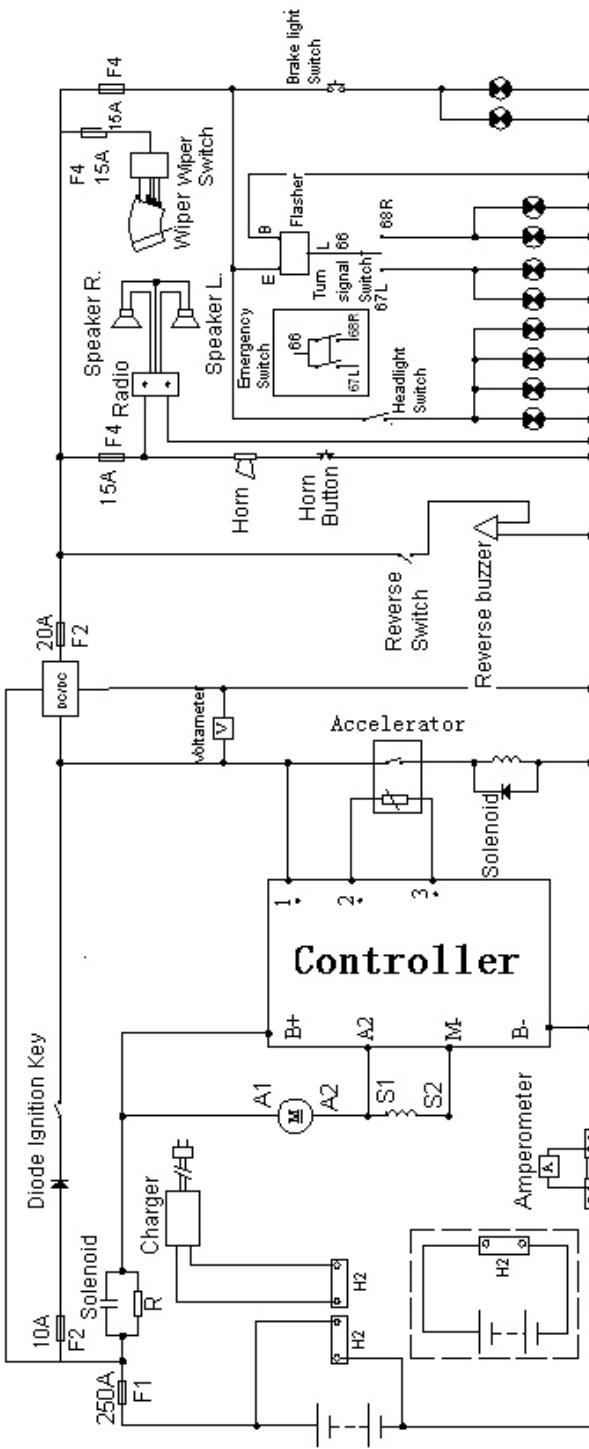

FIG1
- 1) Wiring Diagram of Series System (FIG.1)